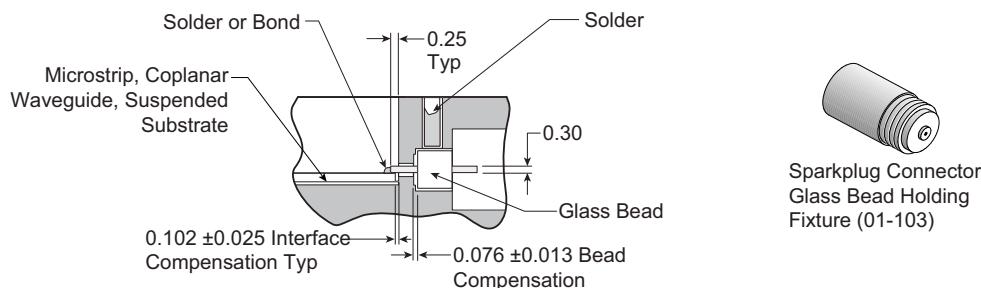

Figure 5-3. K102M-R or EK102M-R Glass Bead Assembly
1. Install the microstrip into the housing (see Figure 5-3 for dimensional tolerances around the glass bead).
3. Flux the glass bead and insert it, long-end first, into the 01-103 Glass Bead Holding Fixture (Figure 5-3).